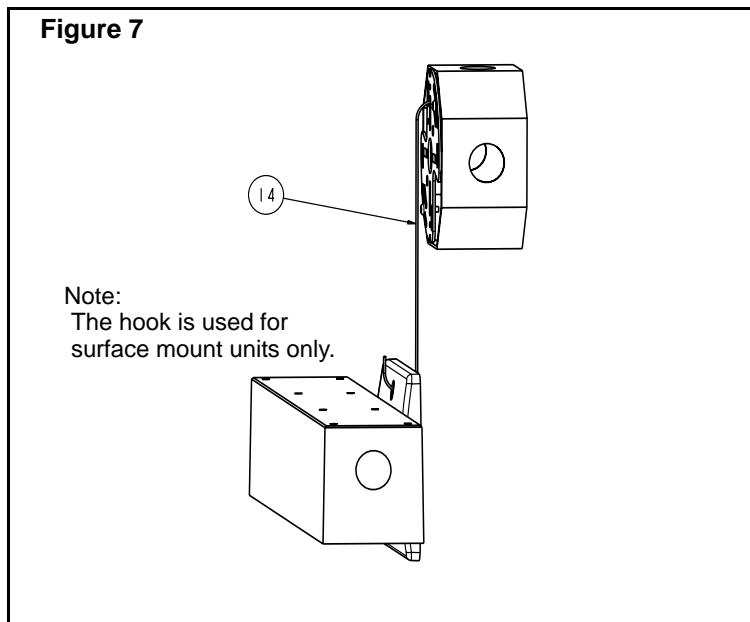

Figure 7
5. Using the hook provided, hang the canopy/back box assembly to the spider plate (figure 7).
| | 14. Hook (refer to fig.7) |
4. **Electrical connection (Figures 7,8,9)**